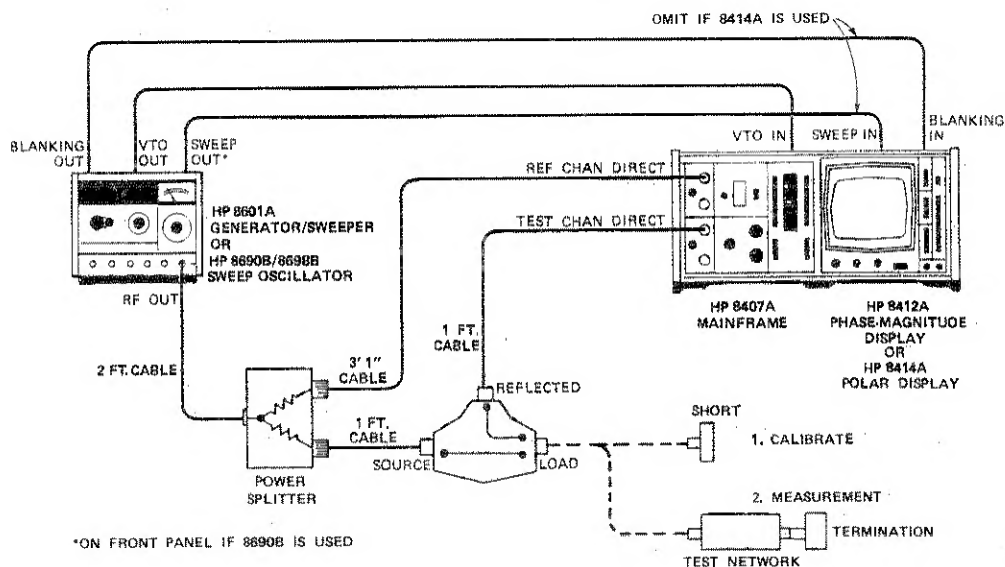

Figure 5. Basic Setup for Reflection Measurements
a. The HP 11652A is used as shown in Figure 5 when measuring complex impedance, reflection coefficient or return loss (VSWR).
1. Setup the equipment as shown in Figure 5.
Be sure the HP 8721A Directional Bridge is being used as a reverse coupler, not as a forward coupler during a reflection measurement (see Figure 5). This ensures that only the reflected signal will enter the test channel ($E_{\text{REFLECTED}}$).